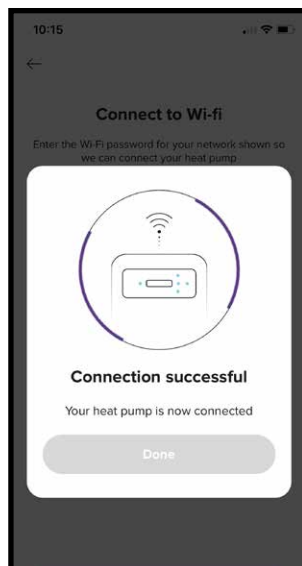

Figure 9.90
- Once connection between the Henden Smart Chlorinator App and the Davey Heat Pump is complete, the confirmation will show (refer Figure 9.90). Click “Done” to return to the dashboard.